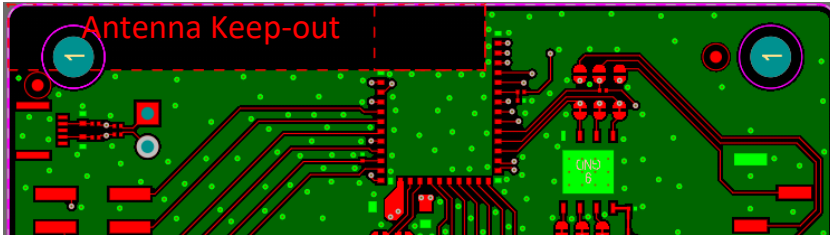

Figure 6: PCB trace Antenna keep-out area (shown in red), corner of the BL54L15 development board for the 453-00001 module.
- The BL54L15 development board (453-00001-K1) has the 453-00001 module on the edge of the board (not in the corner). The antenna keep-out area is defined by the BL54L15 development board which was used for module development and antenna performance evaluation is shown in **Figure 6**, where the antenna keep-out area is ~5mm wide, ~28.6mm long; with PCB dielectric (no copper) height ~1.57mm sitting under the 453-00001 PCB trace antenna module.
Figure 6 shows an example.